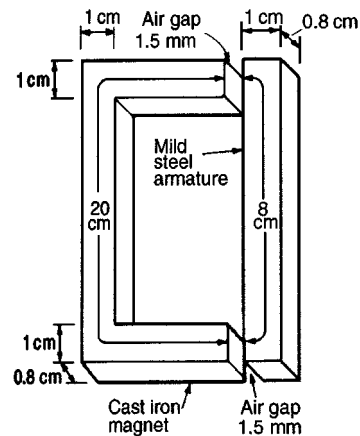

Figure 7.8
- 6 Figure 7.8 shows the magnetic circuit of a relay. When each of the air gaps are 1.5 mm wide find the mmf required to produce a flux density of 0.75 T in the air gaps. Use the B–H curves shown on page 71. [2970 A]